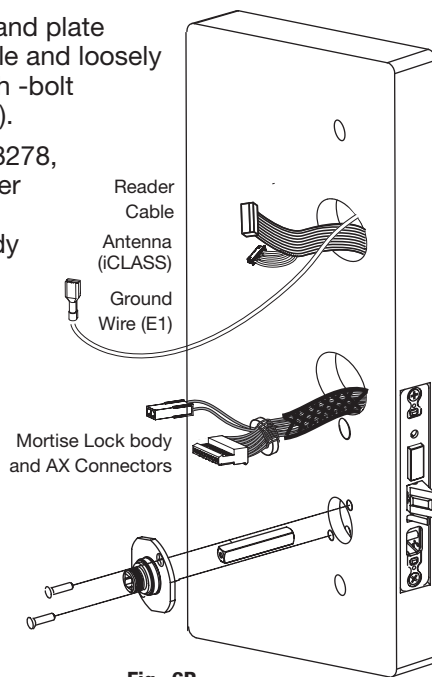

Fig. 6B
1B. For non-fire rated doors: feed ribbon cable with connector and ground wire from outside of door through weatherseal gasket (if used) and weather conduit (Fig. 6B).
2. With outside lever horizontal, locate the outside escutcheon on the door, while directing the mounting posts through the door and lock body (Fig. 6B).